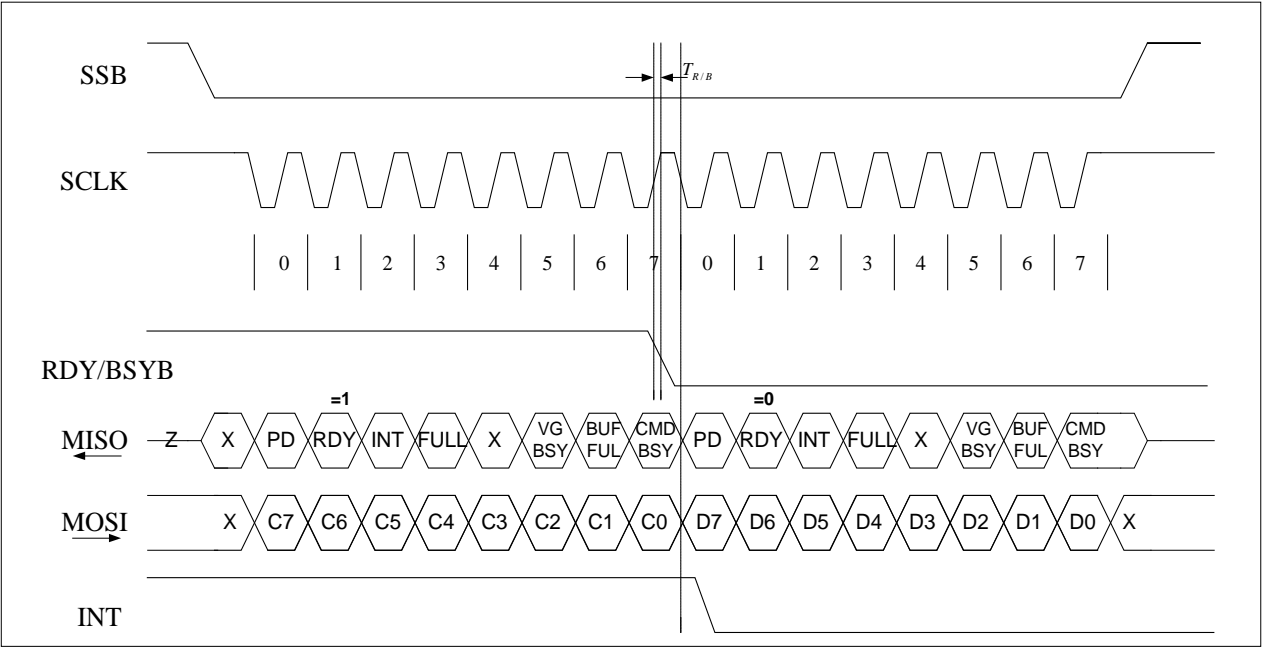

Figure 6-3 SPI Transaction Ignoring RDY/BSYB
The INT pin will go low to indicate (1) data overrun/overflow when sending data to the ISD15D00; or (2) invalid data from ISD15D00. See Figure 6-3 for the timing diagram.